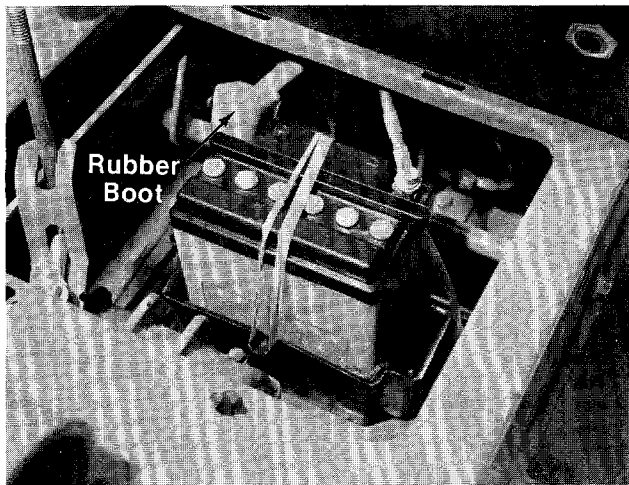

FIGURE 17.
10. Slide the rubber boot over the positive terminal. See figure 17.